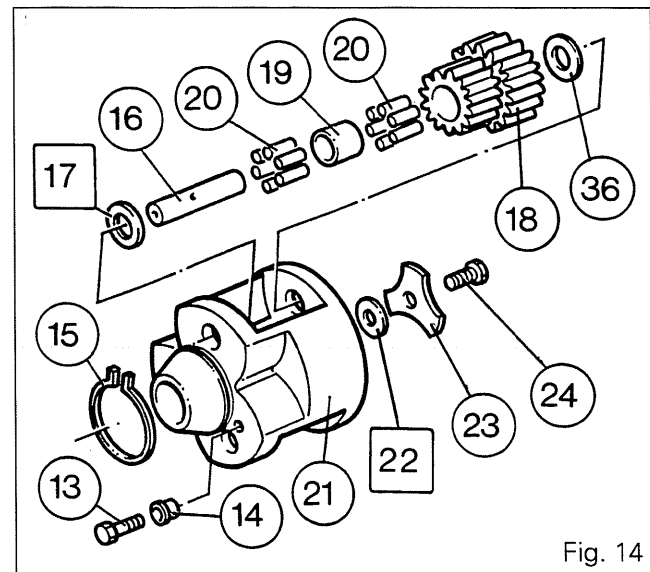

Fig. 14
2. Remove the bolt (24).
3. Remove the retaining washer (23), the shims [22] (Fig. 14).
5. Remove the ring gear (10). Discard the 'O'ring (33).